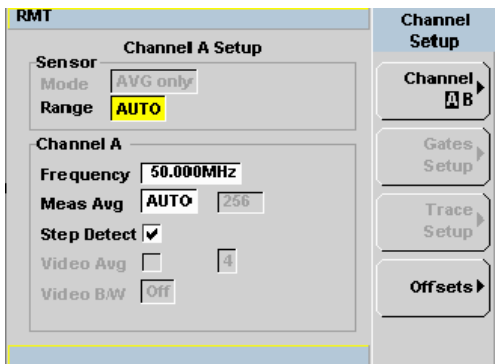

Figure 2-59 Channel Setup display
- 3 Press . The **Channel Setup** displays as shown in Figure 2-59.